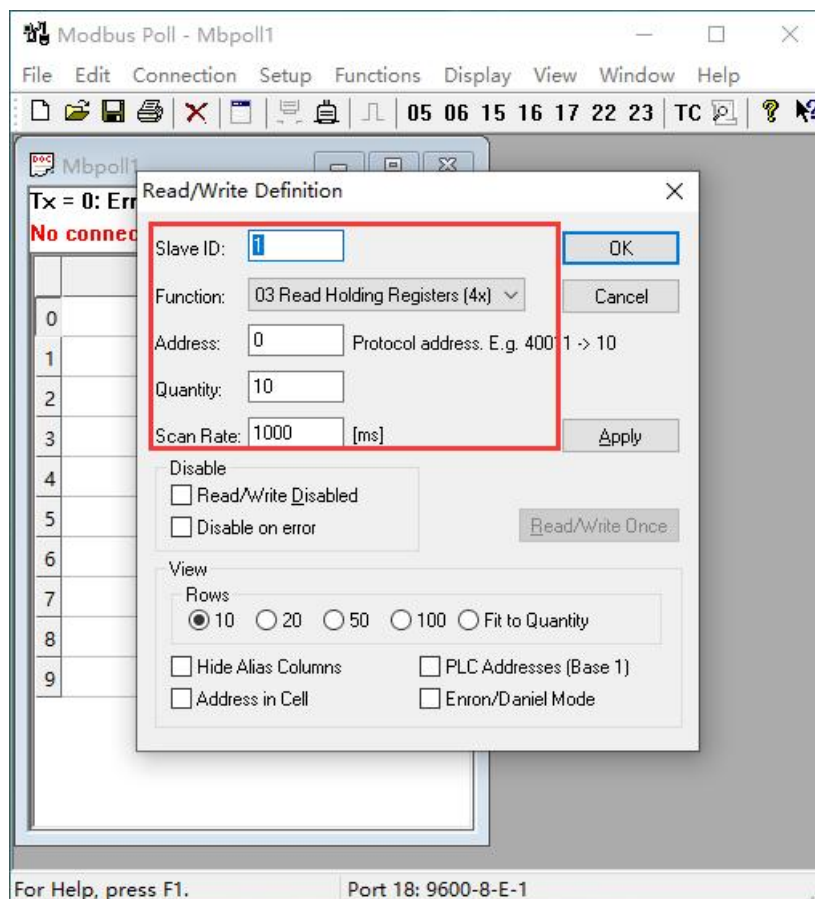

Figure 6-30 Modbus Master Creation
3) Open the "Modbus Poll" tool and configure the serial port information. The parameter settings are as shown in Figure 6-30, and the ID is set as 1. Function code selection 3.